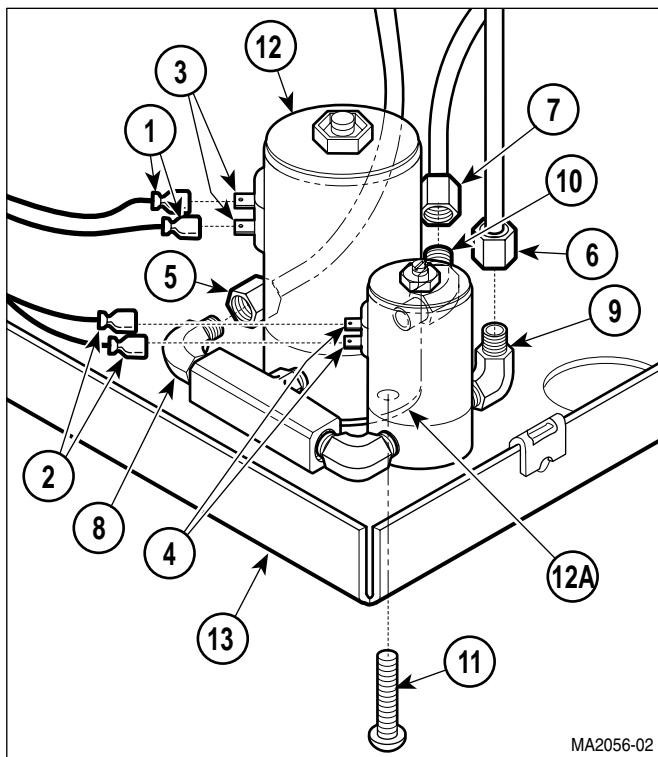

Figure 4-12. Fill Solenoid Removal / Installation
- (1) Drain water from condensing tank.
- (2) Remove back panel (Refer to para 4.5).
- (3) Tag and disconnect two wires (1, Figure 4-12) from terminals (3).
- (4) Tag and disconnect two wires (2) from terminals (4).
- (5) Disconnect three tubes (5 thru 7) from elbows (8 thru 10).
- (6) Remove two screws (11) from bottom of manifold assembly (12).
- (10) Install spacer (12A, Figure 4-12) and manifold assembly (12) on base (13) and secure using two screws (11).
- (11) Connect three tubes (5 thru 7) to elbows (8 thru 10).
- (12) Connect two wires (2) to terminals (4).
- (13) Connect two wires (1) to terminals (3).
- (14) Install back panel (Refer to para 4.5).
- (15) Refill condensing tank with distilled water.